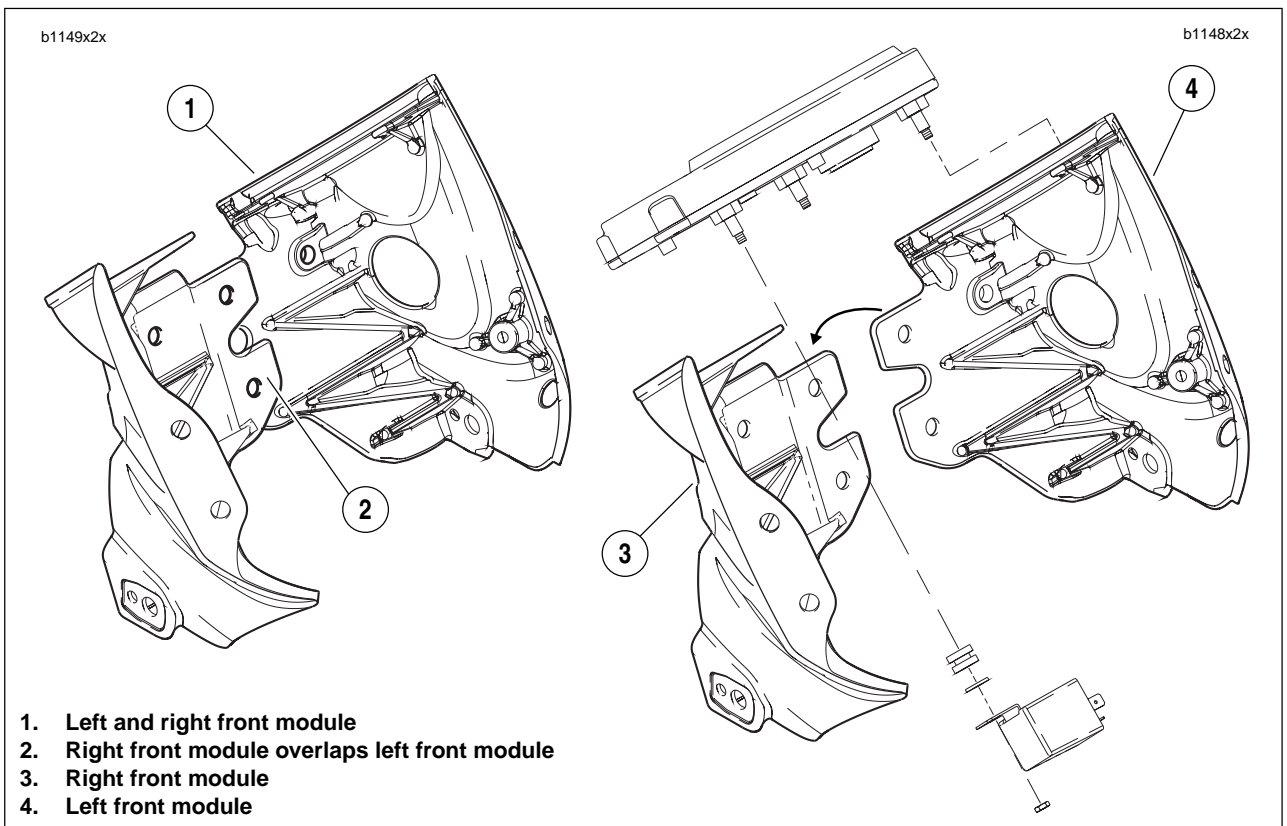

Figure 2-107. Fairing Support Bracket Assembly
See Figure 2-107. Once the clamp load has been released on the final fastener securing the right front module to the upper triple clamp, the left front module can be removed.
9. See Figure 2-107. Remove the left front module.